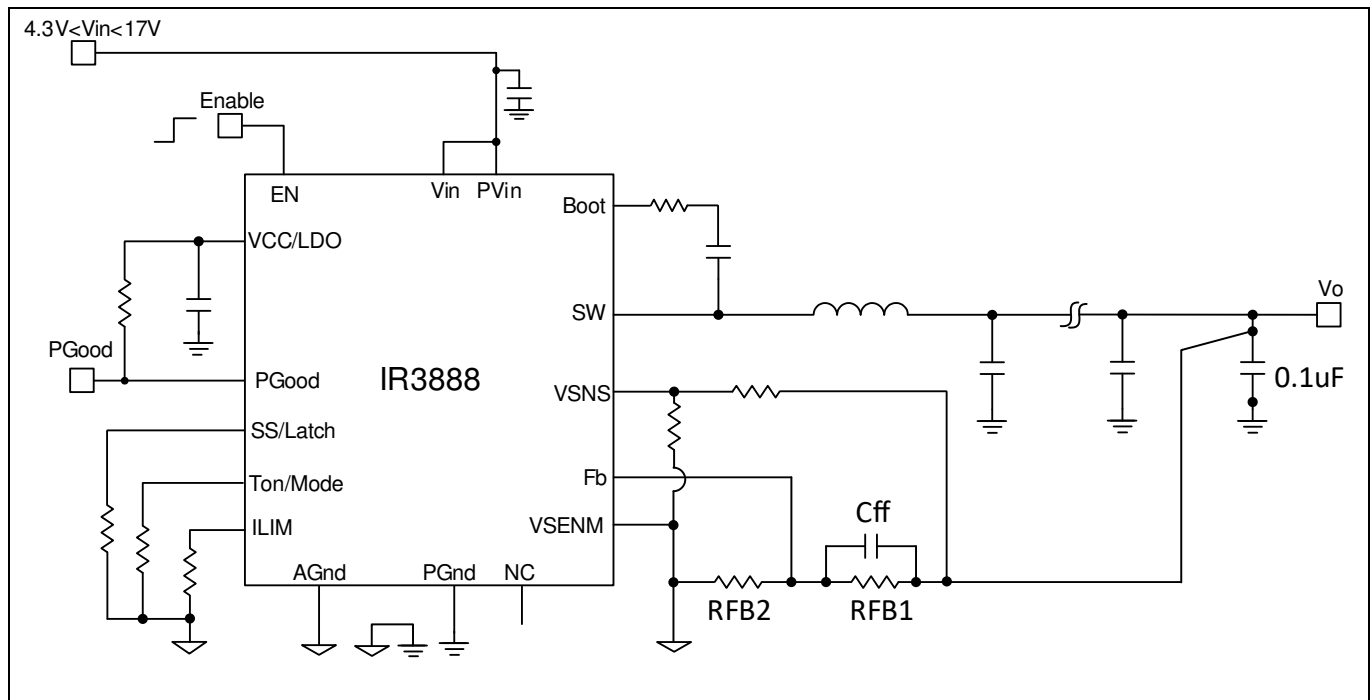

Figure 22 Single-ended V_o sense configuration
- Single-ended V_o sensing is often used for local sensing. To implement this configuration, following design guidelines should be followed, as illustrated in Figure 22.